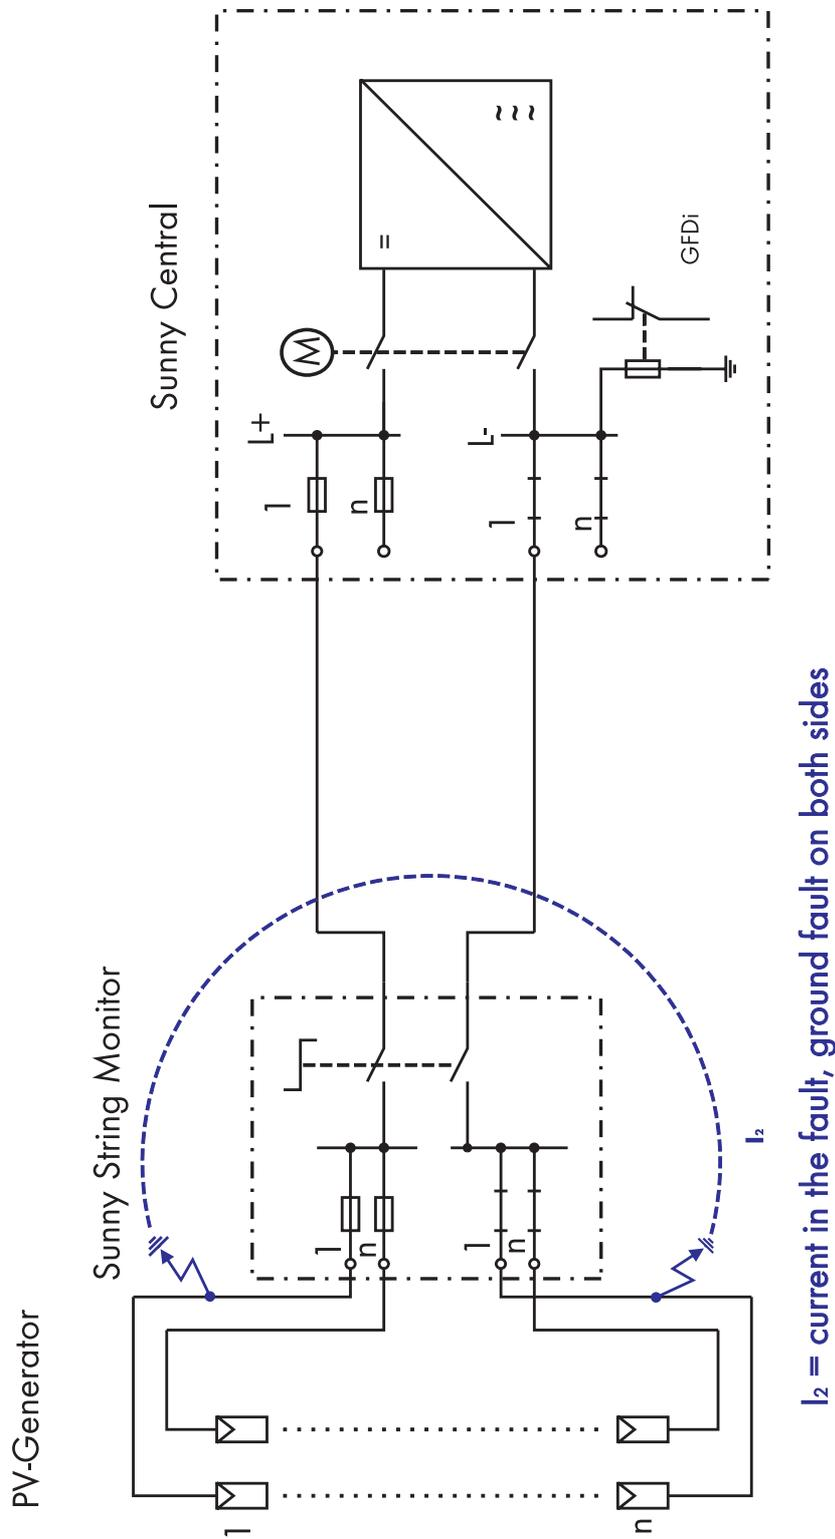

Figure 2: Ground fault on both sides
Operation of the inverter with a triggered GFDI could damage the PV modules due to the absence of grounding. If, while in this state, a ground fault also occurs at the grounded pole, this creates a short-circuit (see figure 2) to which the inverter could feed current. This can damage the power module. Therefore, the inverter cannot be operated when the GFDI is triggered.
- If, while the system is in this state, a ground fault occurs at the pole that is not grounded (see figure 2), the GFDI cannot interrupt the resulting leakage current. This can damage the system or building components.